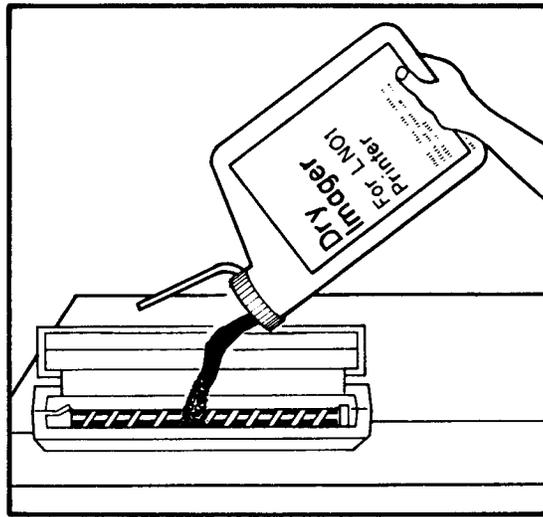

Figure 4-20: Adding Dry Imager to the Hopper
3. If you can see the agitator blades (Figure 4-20), add LN01X-AA dry imager or the equivalent, as follows:
- d. Carefully fill the dry imager hopper above the level of the agitator blades, but leave at least 1/2 inch below the top of the hopper. Stir. (Figure 4-20).